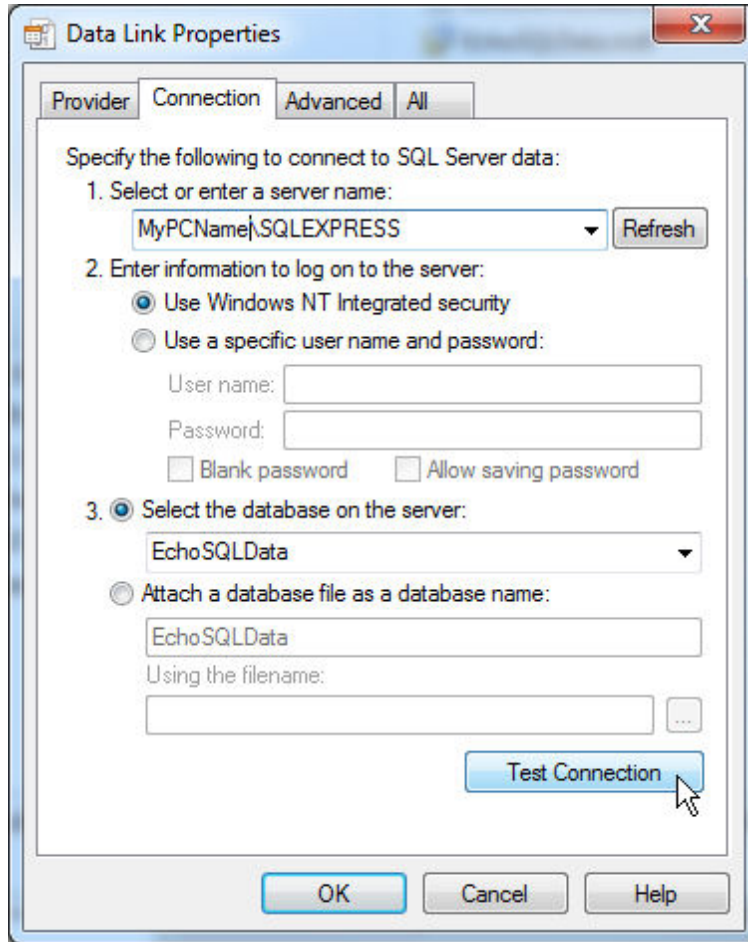

Figure 1 – Universal Data Link (UDL) File Definition Utility
- Double click on it or open with OLE DB Core Services. The dialog in Figure 1 will appear
- Enter <Your PC Name>\SQLEXPRESS as the data source and make sure items 2 & 3 are as shown. **Note:** If you have a standard version of SQL Server, then do not add '\SQLEXPRESS' to the data source name.